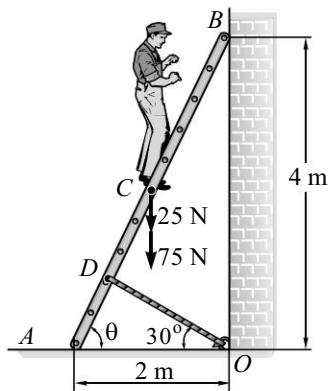

Fig. 3.E27
28. The frame *BCD* as shown in Fig. 3.E28 supports a 600 N cylinder. The frame is hinged at *D*. Determine the reactions at *A*, *B*, *C* and *D*.